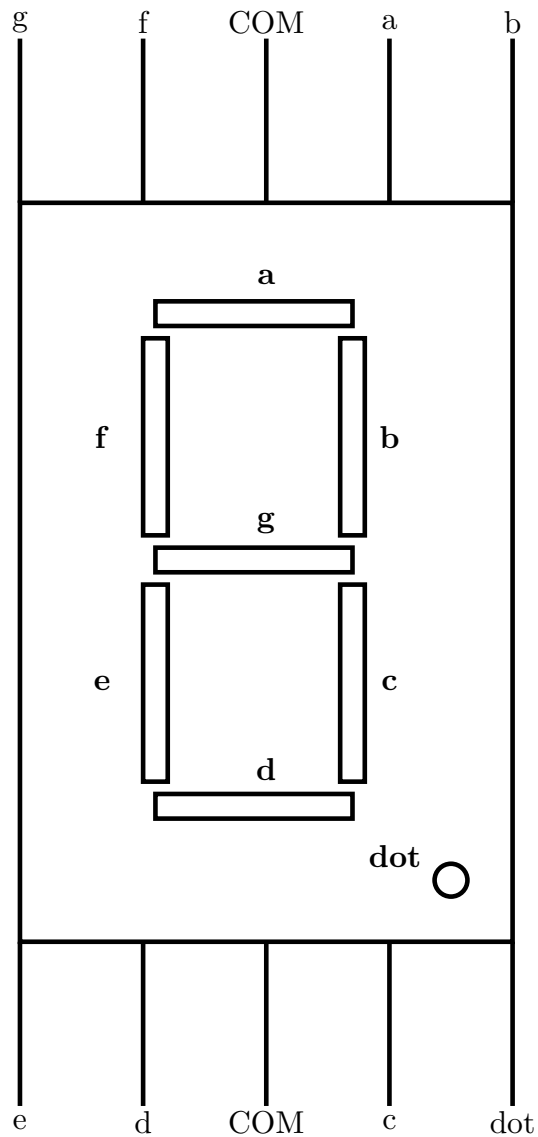
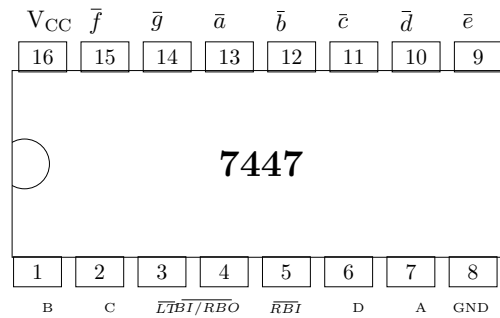

Figure 2.2:
Figure 3.1:
The seven segment display in Fig. 2.2 has eight pins, a, b, c, d, e, f, g and dot that take an active LOW input, i.e. the LED will glow only if the input is connected to ground. Each of these pins is connected to an LED segment. The dot pin is reserved for the \cdot LED.
1. Make connections between the seven segment display in Fig. 2.2 and the 7447 IC in Fig. 3.1 as shown in Table 3.2